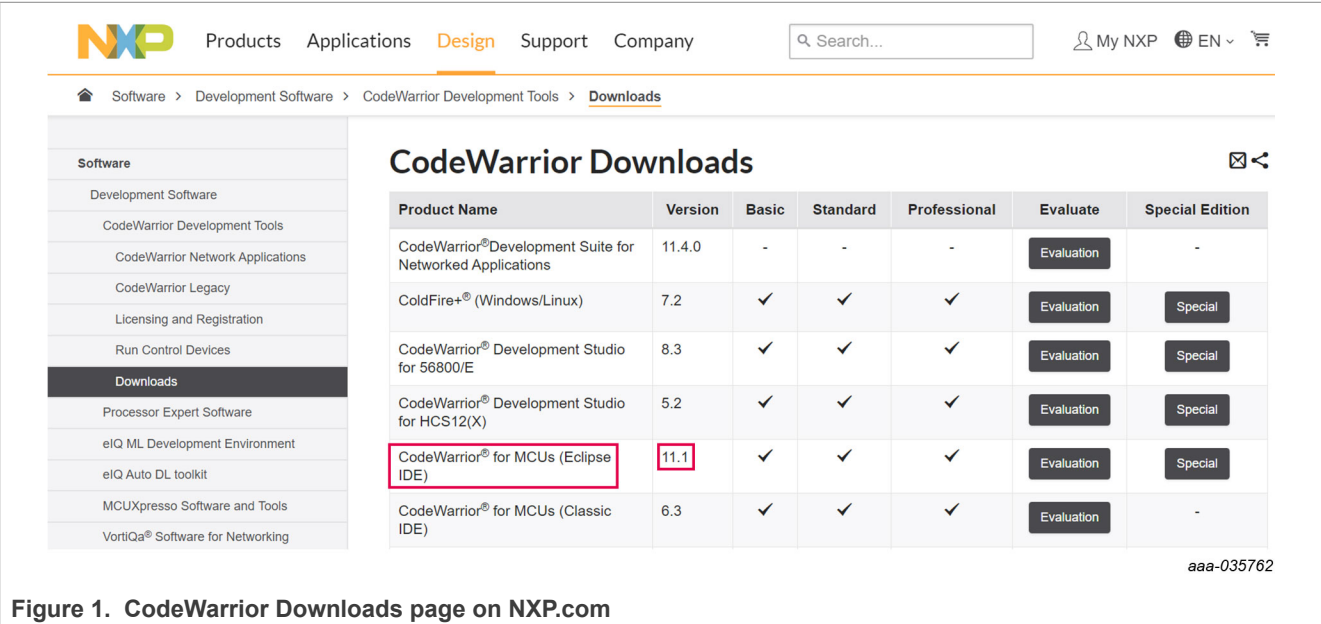

Figure 1. CodeWarrior Downloads page on NXP.com
NXP offers a variety of CodeWarrior (CW) development tools on NXP.com. NXP's industrial pressure monitoring system (IPMS) solutions for NPM8Kx4S use CodeWarrior for MCUs, the Eclipse integrated development environment (IDE). To download a free, no time limit version of the IDE, visit CodeWarrior Downloads on NXP.com or navigate to NXP.com, *Support > All Developer Resources > Software > CodeWarrior Development Tools > Evaluation Software*. From the CW downloads page, select the **Special** button to download the Special Edition version of CodeWarrior for MCUs (Eclipse IDE) as shown in Figure 1.